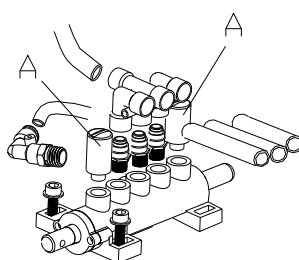

Fig 25
Note: If Vertical Arm not be locked or not meet the requirement that 2-3mm from the bottom of Mounting head/demounting head to rim, please adjust Hexagonal Locking Plate, refer to Fig 25 and adjust the (X).